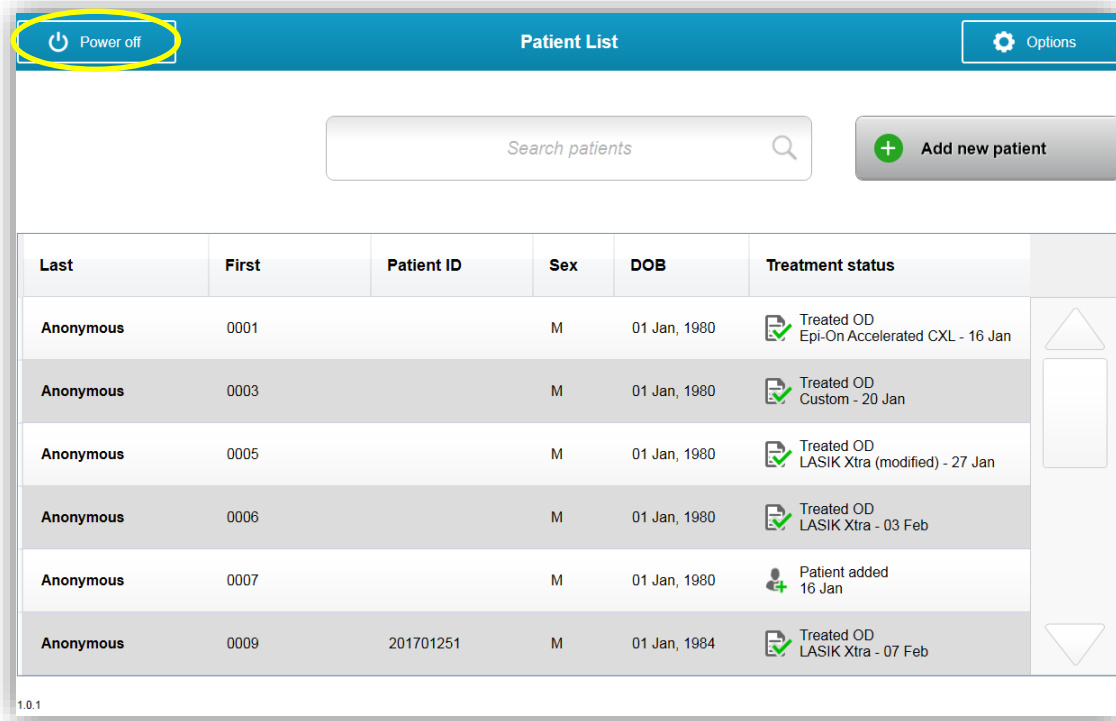

Figure 3-48. Select “Power Off”
- Select “Power Off” on the Patient List homescreen as shown in Figure 3-48.